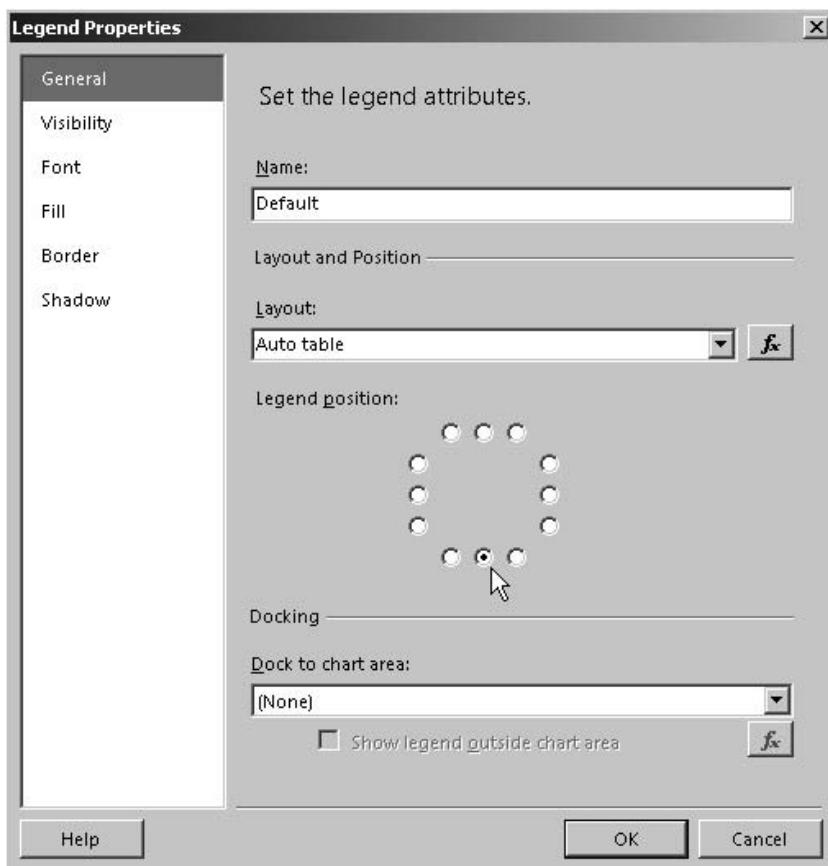

Figure 16-54 Positioning the chart legend
72. Move the legend to the center bottom of the chart by selecting the center-bottom option button, as shown in Figure 16-54.